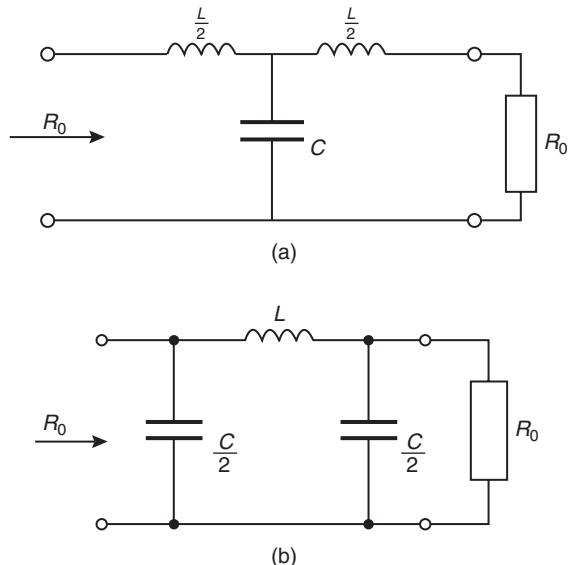
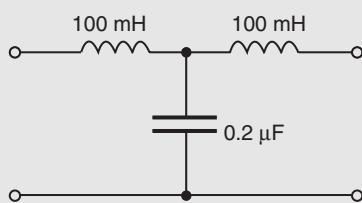
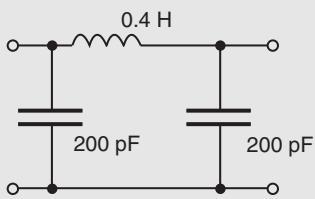
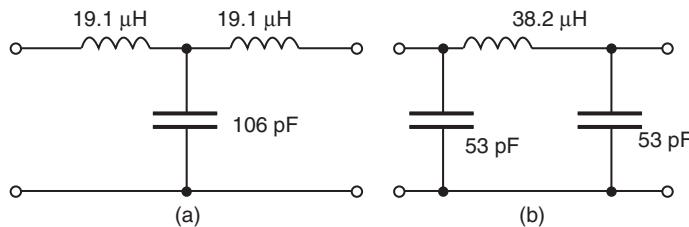

Figure 17.7
Figure 17.8
Figure 17.9
Figure 17.10
A low-pass symmetrical T-network and a low-pass symmetrical  $\pi$ -network are shown in Fig. 17.7. It may
**Problem 1.** Determine the cut-off frequency and the nominal impedance for the low-pass T-connected section shown in Fig. 17.8.
Comparing Fig. 17.8 with the low-pass section of Fig. 17.7(a), shows that:
**Problem 2.** Determine the cut-off frequency and the nominal impedance for the low-pass  $\pi$ -connected section shown in Fig. 17.9.
Comparing Fig. 17.9 with the low-pass section of Fig. 17.7(b), shows that:
- (a) A low-pass T-section filter is shown in Fig. 17.10(a), where the series arm inductances are each  $\frac{L}{2}$  (see Fig. 17.7(a)), i.e.  $\frac{38.2}{2} = 19.1 \mu\text{H}$
- (b) A low-pass  $\pi$ -section filter is shown in Fig. 17.10(b), where the shunt arm capacitances are each  $\frac{C}{2}$  (see Fig. 17.7(b)), i.e.  $\frac{106}{2} = 53 \text{ pF}$